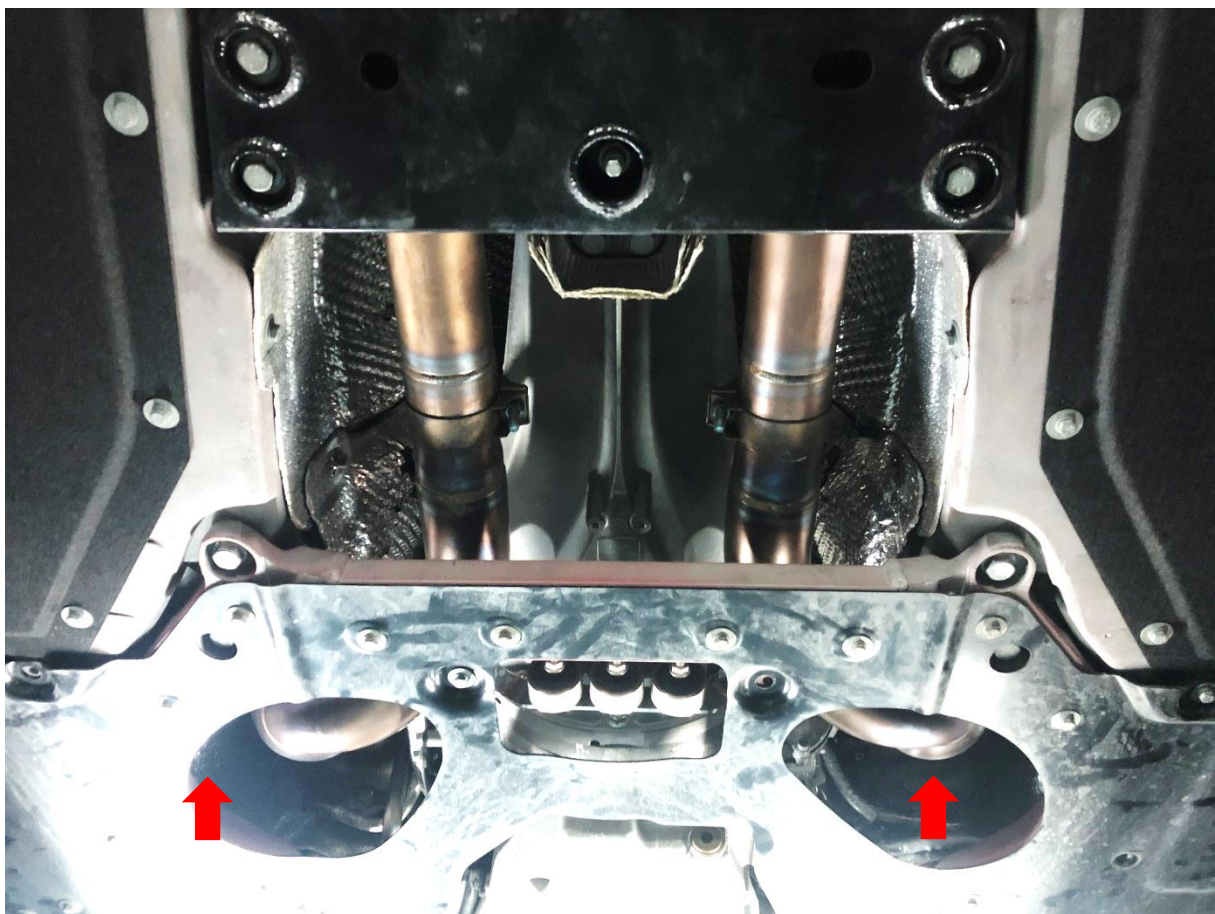

Fig. 11
2. Install the cat pipe, lock the front clamps first, then install and adjust the mid pipe. (Fig 11)